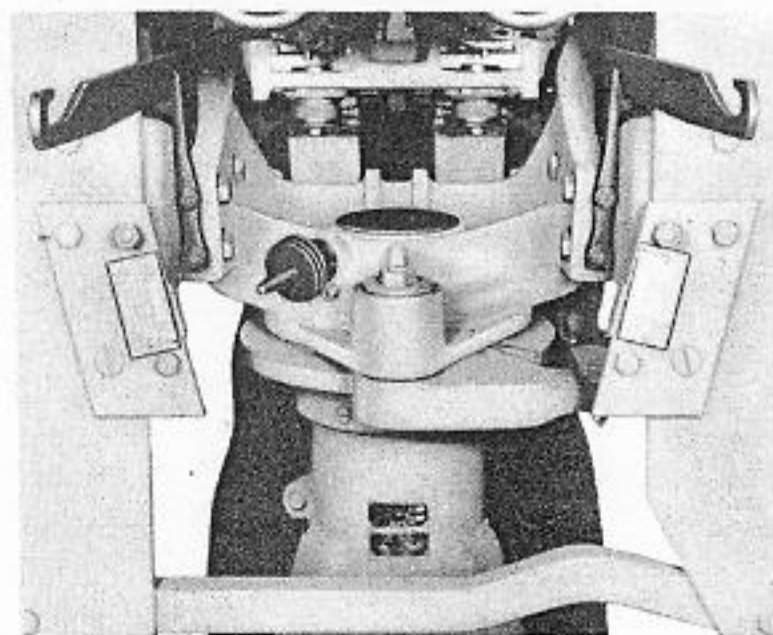

Figure 38. Power-Unit Adapter Plates Fastened to Shields.
4. **Power Unit.** Mount the power unit and its support bracket on the adapter plates. If the power-unit bracket is of recent manufacture, it will clear the interference clips on the adapter plates as shown in Fig. 38. If the power-unit bracket is an early production piece with the inner edges of the supporting arms parallel to the outer edges, the inner corners of the